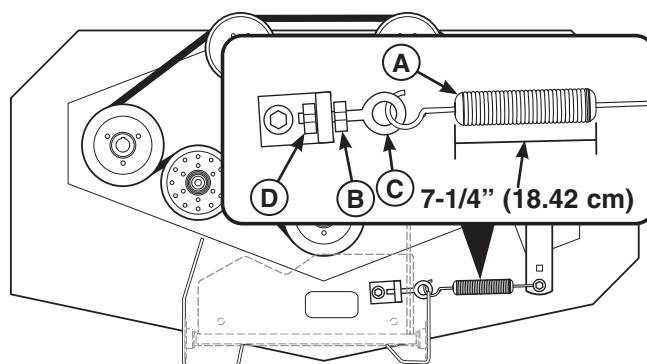

Figure 47. Deck Drive Belt Idler Tensioner Spring
- Measure the coil to coil length of the deck drive belt tensioner spring (**A**, **Figure 47**). It should measure 7-1/4" (18.42 cm). If it does not, perform the *Adjusting the Deck Drive Belt Idler Tensioner Spring Length*.
7. Remove the old belt and replace it with a new one. Make sure the V-side of the belt runs in the grooves of the pump drive pulleys (**C**) and the crankshaft pulley (**D**). See Figure 47 for proper belt routing.